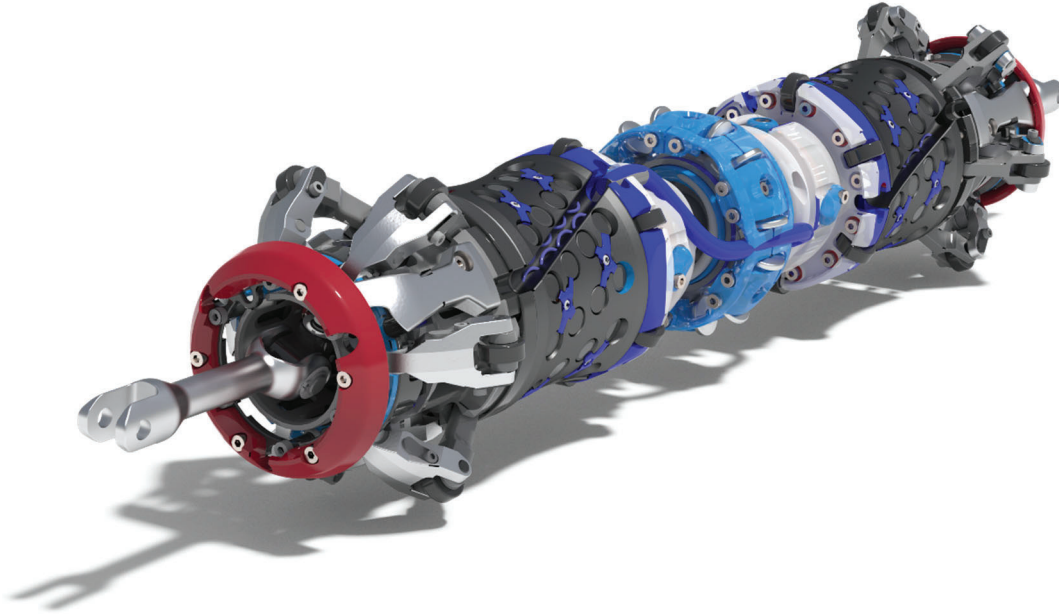

Figure 3: UT scanner unit
- **UT Scanner Module:** The 96 UT sensors mounted in a rigid ring provide high-resolution data for corrosion detection and assessment (*Figure 3*). The UT sensors are calibrated to detect even minor variations in wall thickness, ensuring comprehensive data collection.